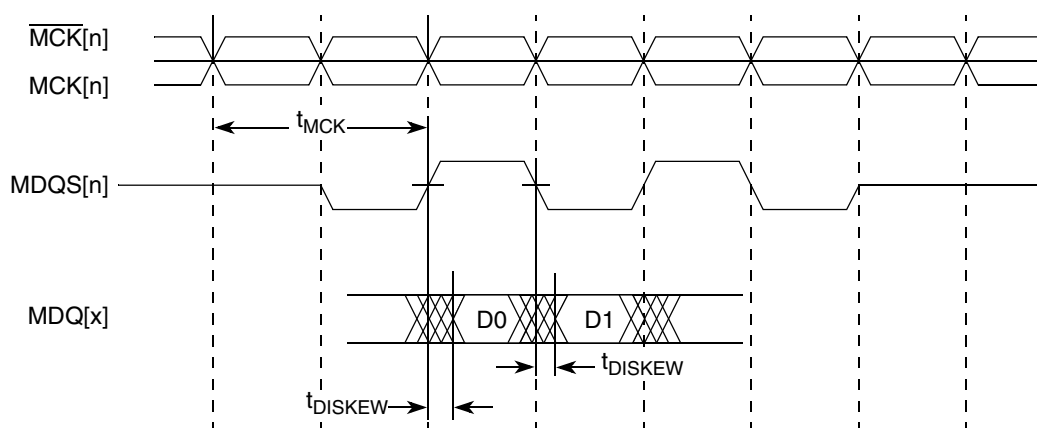

Figure 3. DDR SDRAM Input Timing Diagram (t_{DISKEW})
- The amount of skew that can be tolerated from MDQS to a corresponding MDQ signal is called t_{DISKEW} . This can be determined by the following equation: $t_{DISKEW} = \pm (T/4 - abs(t_{CISKEW}))$, where T is the clock period and $abs(t_{CISKEW})$ is the absolute value of t_{CISKEW} . See Figure 3.
Figure 3 shows the DDR SDRAM input timing diagram.